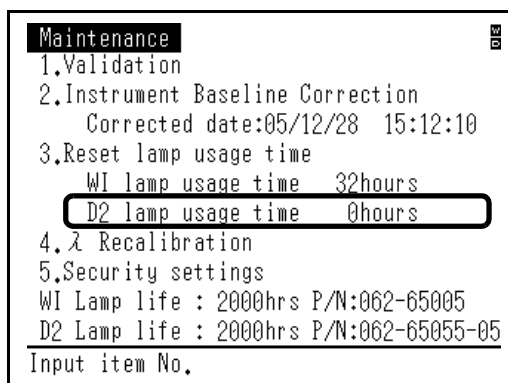

Fig. 3.7
- 5 You will return to the [Maintenance] screen (Fig. 3.7). Verify that [D2 lamp usage time] is reset to "0 hours".